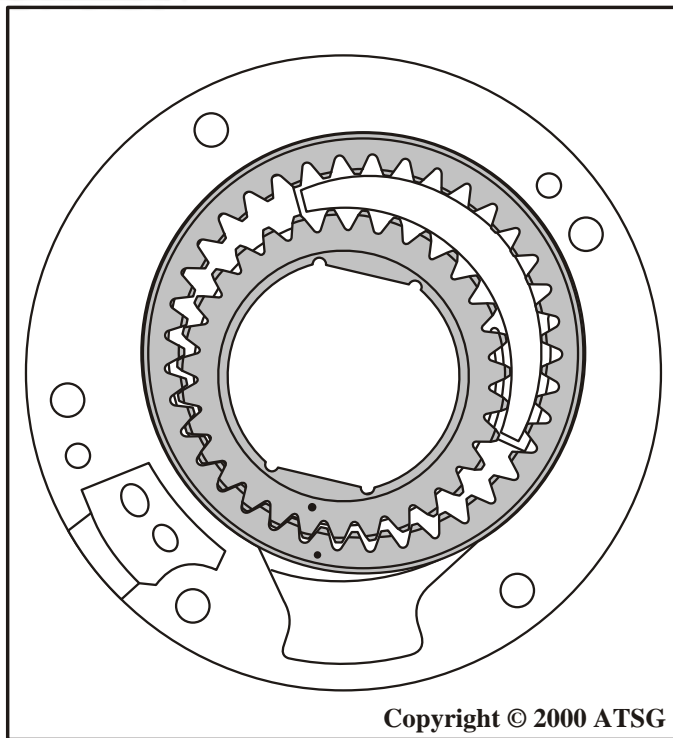

Figure 87
13. Lubricate the inner and outer pump gears with transmission fluid and install in the pump body with marks facing up, as shown in Figure 87.